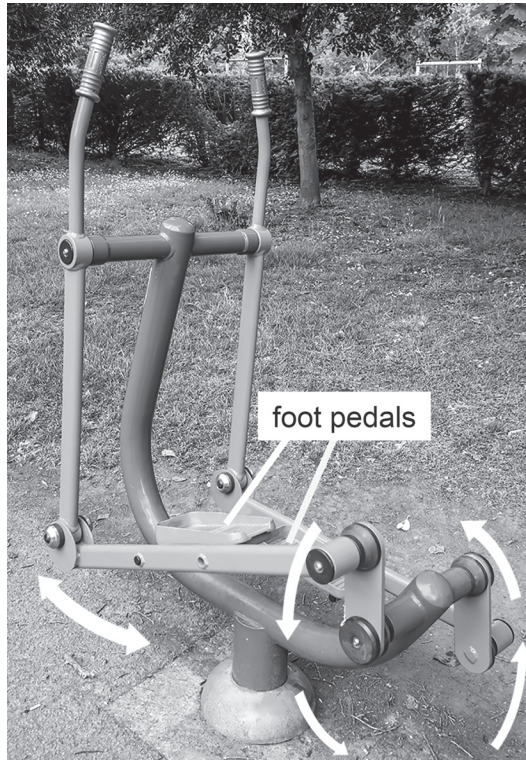

Fig. 11.1
- 11 (a) Fig. 11.1 shows a piece of exercise equipment in a park. The equipment uses feet and hands to operate it.